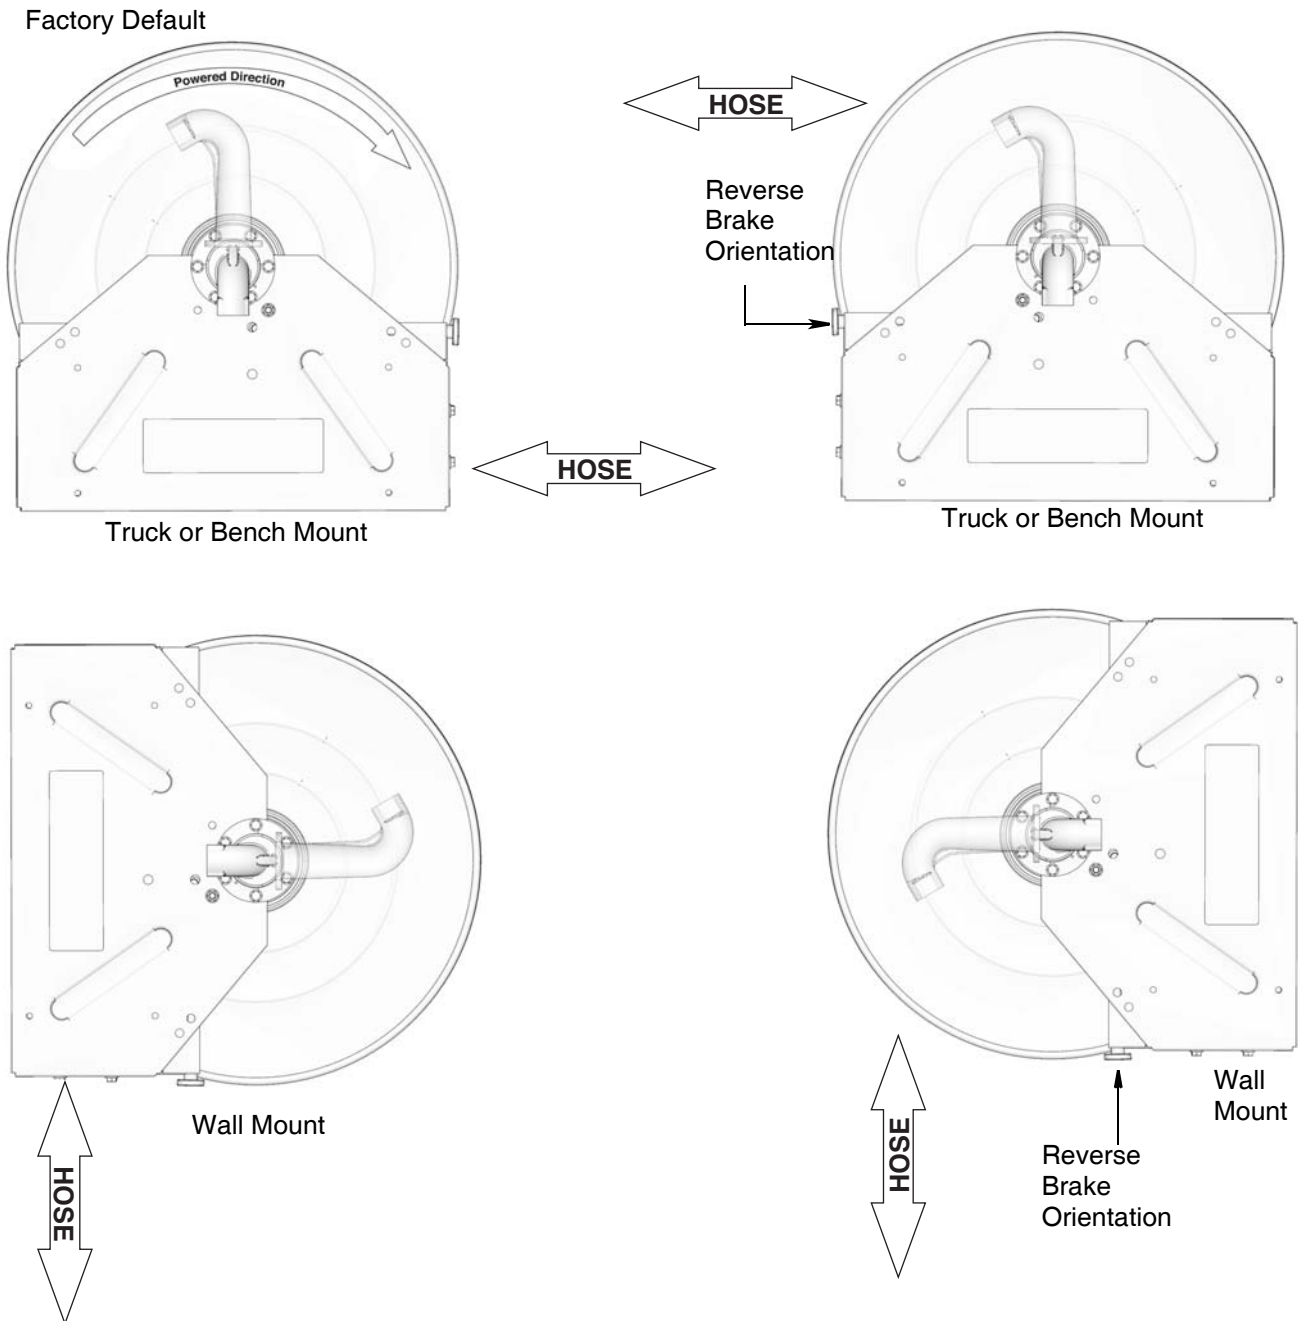
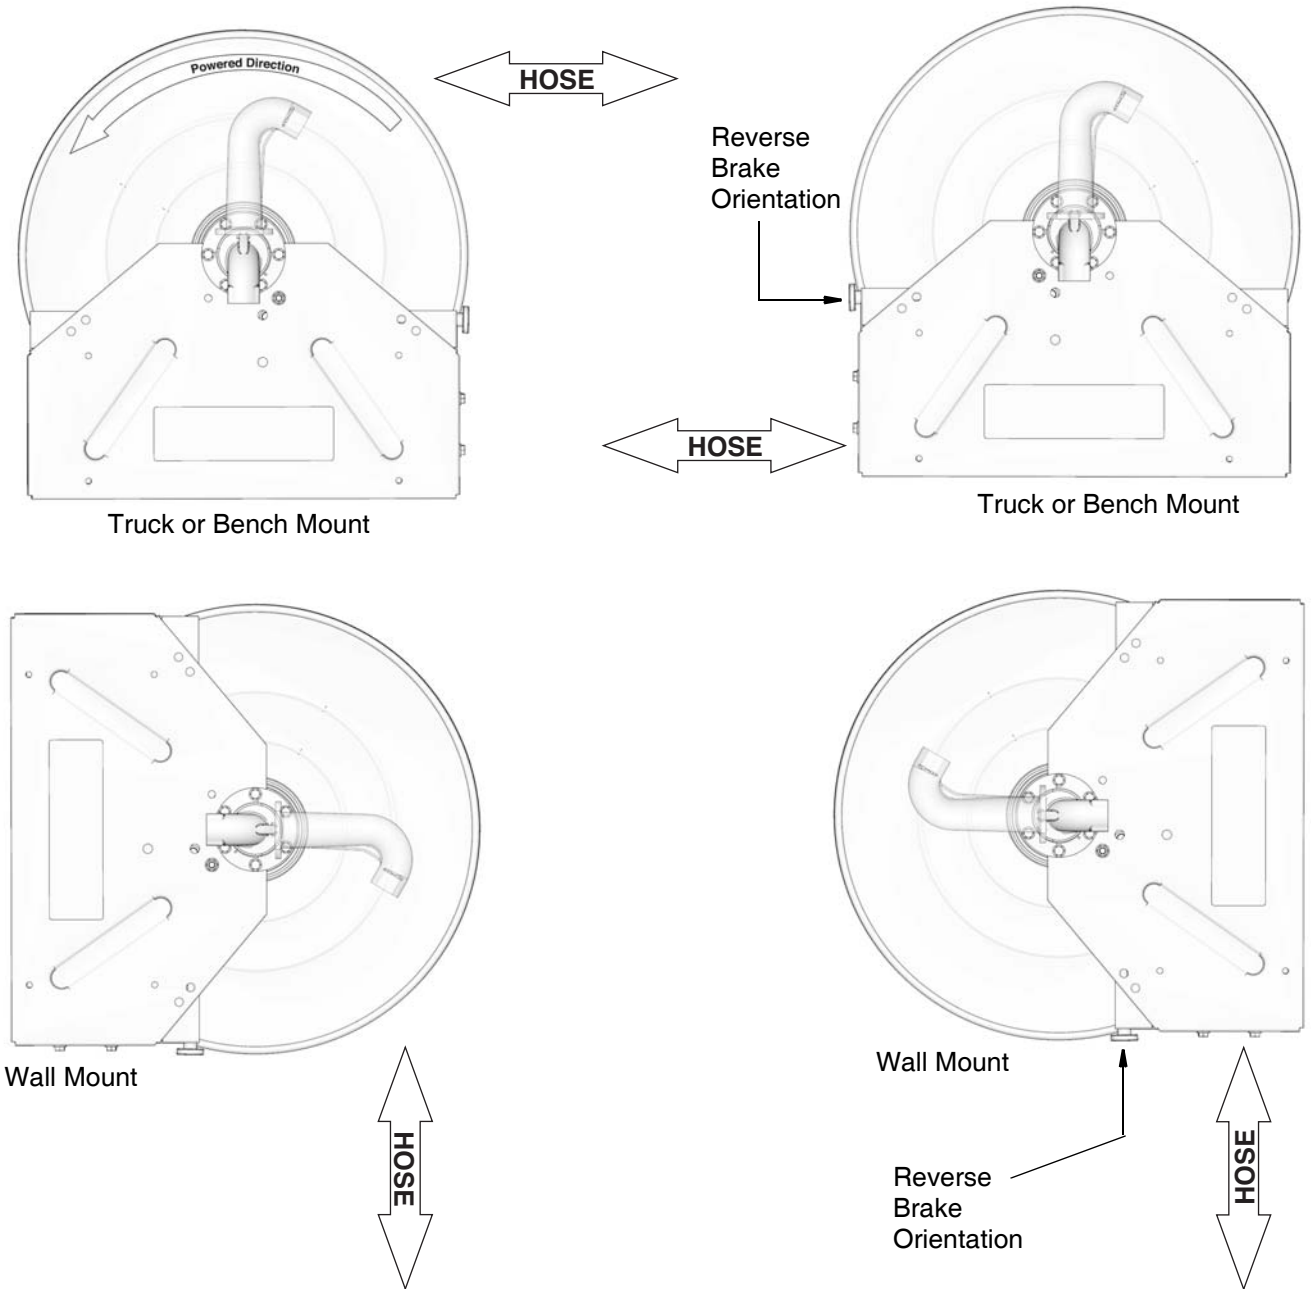

FIG. 22: Inlet Side Shown
FIG. 23: Inlet Side Shown
The outlet (17) orientation and motor (26) rotation can be altered as shown in FIG. 22-FIG. 23.
In the configurations shown in FIG. 22 the motor turns counter-clockwise under power when viewed from the motor side of the reel. All four configurations shown in FIG. 22 have the factory standard motor rotation and outlet orientation.
In the configurations shown in FIG. 23 the motor turns clockwise under power when viewed from the motor side of the reel. All four configurations shown in FIG. 23 require motor (26) rotation reversal and outlet (17) reversal.
3. Determine correct orientation for outlet (17) for your installation location. Refer to Outlet Orientation and Motor Rotation, FIG. 22, page 28 and FIG. 23, page 29.
5. Attach end of the hose to the outlet (17) using two wrenches on the flats, working in opposite directions, to securely tighten the hose to the outlet fitting